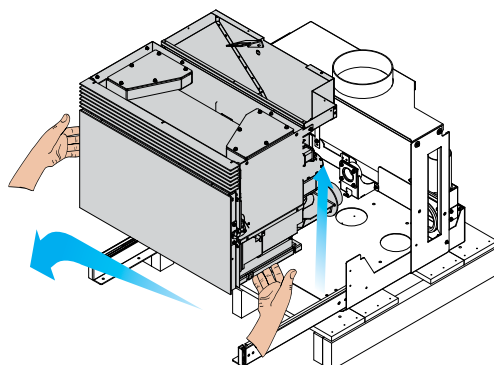

fig. 6.1.6
- 6) Lift the insert and remove it from the rails of the load-bearing structure (fig. 6.1.6);